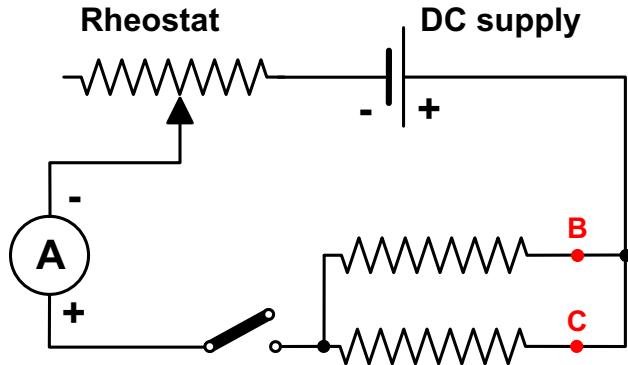

Figure 5
- A.** Connect in series the DC supply, the rheostat, the ammeter, the switch, and the two wire wound resistors in parallel as shown in Fig. 5. Measure the current when the ammeter is placed, successively, at the shown position and at the positions marked B and C.
Question 5: How do the meter readings at B and C compare with that at the original position shown in Fig. 5? What conclusion can you draw?